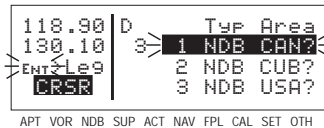

Figure 4-46
- Press **ENT**. The Duplicate Waypoint page will be displayed on the screen (figure 4-46). At the time of this writing, there were three waypoints in the North American data base having the identifier **D**. If there are more than four waypoints having the same identifier, only the first three are initially shown. The list includes an NDB in Canada, an NDB in Cuba, and an NDB in the U.S. The cursor will be over the first waypoint listed. They are listed with the waypoint closest to the aircraft's present position displayed first and the waypoint farthest